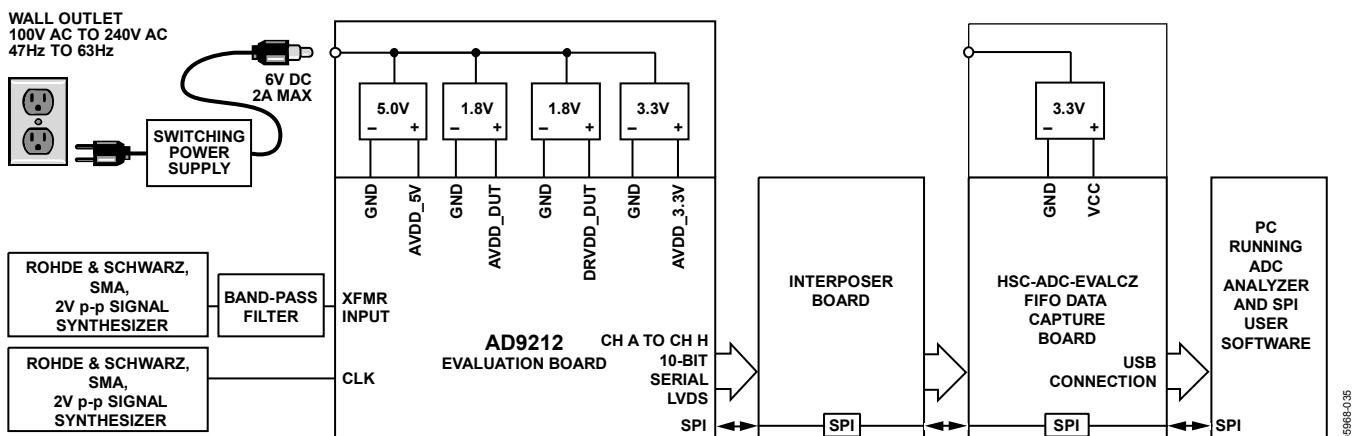
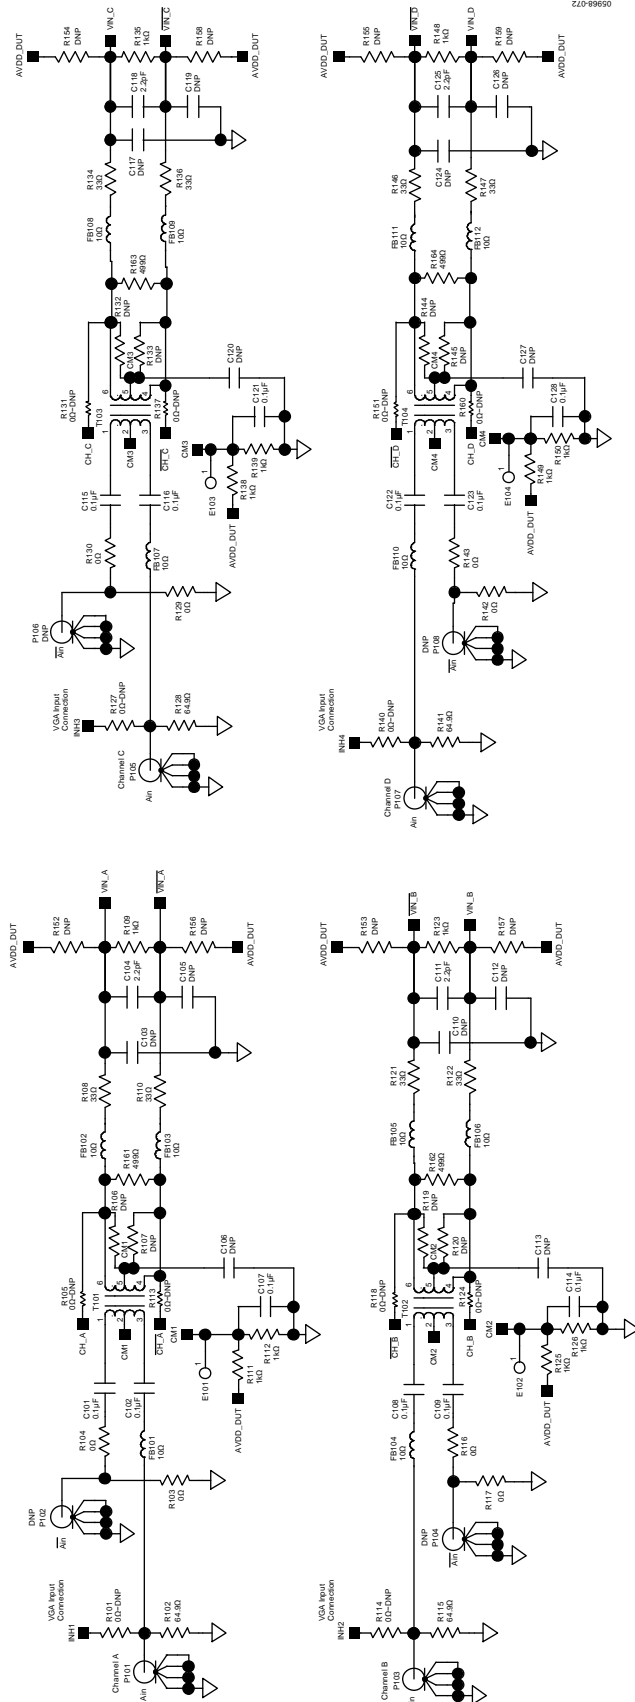
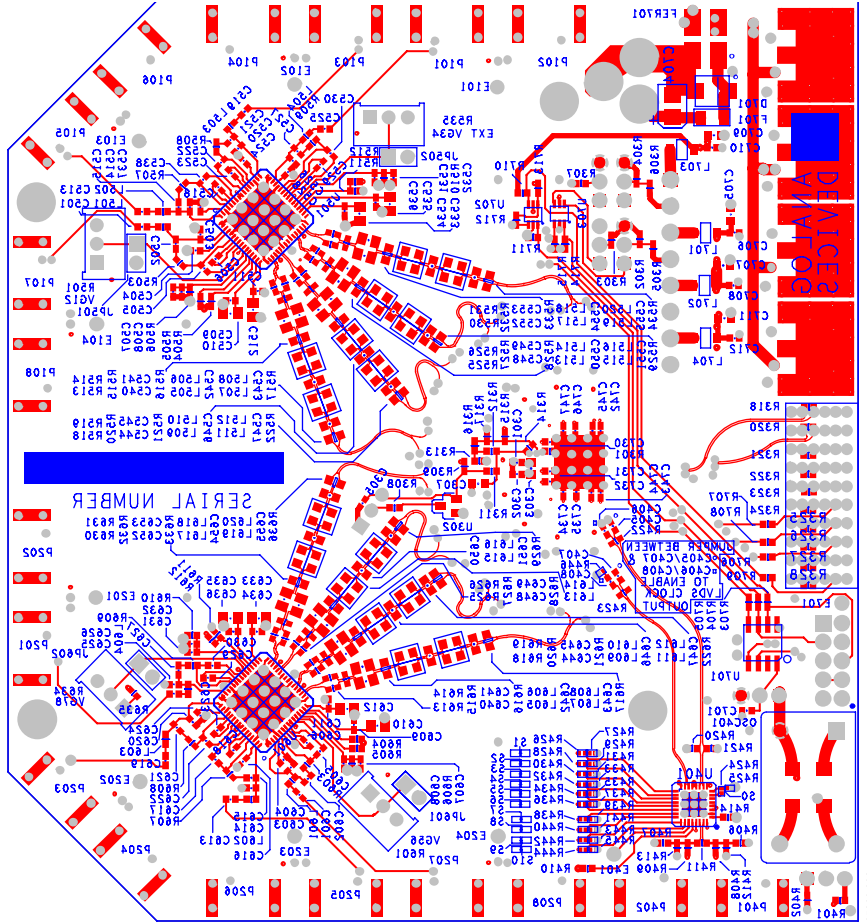

Figure 70. Evaluation Board Connection
Figure 74. Evaluation Board Schematic, DUT Analog Inputs
Figure 84. Evaluation Board Layout, Secondary Side (Mirrored Image)
The AD9212 evaluation board provides all the support circuitry required to operate the ADC in its various modes and configurations. The converter can be driven differentially by using a transformer (default) or an AD8334 driver. The ADC can also be driven in a single-ended fashion. Separate power pins are provided to isolate the DUT from the drive circuitry of the AD8334. Each input configuration can be selected by changing the connections of various jumpers (see Figure 74 to Figure 78). Figure 70 shows the typical bench characterization setup used to evaluate the ac performance of the AD9212. It is critical that the signal sources used for the analog input and clock have very low phase noise (<1 ps rms jitter) to realize the optimum performance of the converter. Proper filtering of the analog input signal to remove harmonics and lower the integrated or broadband noise at the input is also necessary to achieve the specified noise performance.
See Figure 74 to Figure 84 for the complete schematics and layout diagrams demonstrating the routing and grounding techniques that must be applied at the system level.
- **D + x, D - x:** If an alternative data capture method to the setup shown in Figure 74 is used, optional receiver terminations, R318 and R320 to R328, can be installed next to the high speed backplane connector.